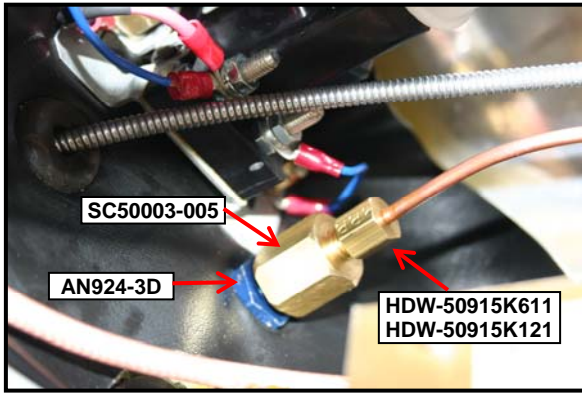

Figure 6 - Firewall Compression Fittings
13. Slide the compression fitting sleeve (HDW-50915K611) and compression fitting nut (HDW-50915K121) over the copper tubing on the aft side of the firewall (see Figure 6).